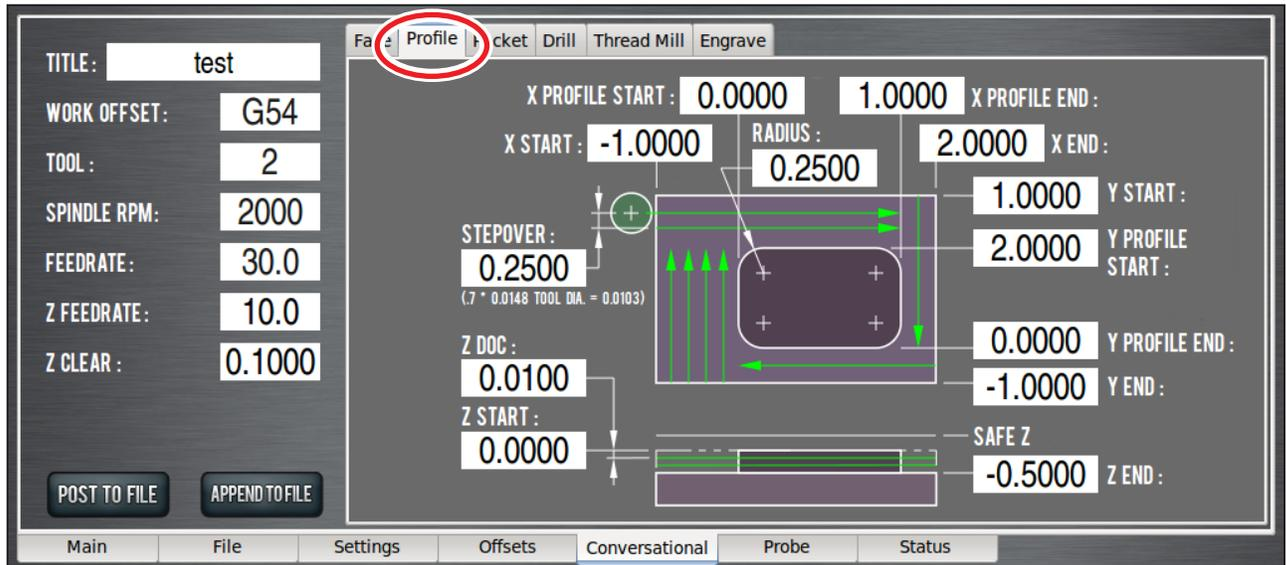

Figure 6.29
*Profile* cuts an XY area with successive *Z Depth of Cuts* to form a rectangular island (see **Figure 6.29**).